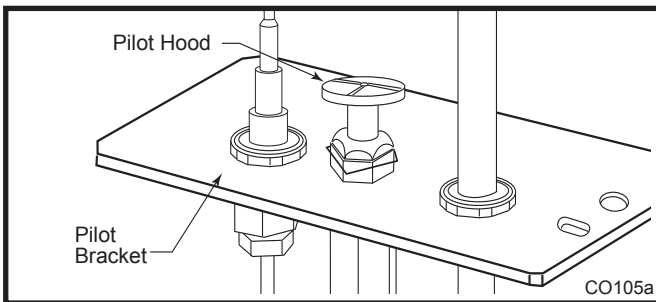

Fig. 56 Remove pilot hood.
- Remove pilot hood by lifting up. (Fig. 56) Do not remove the snap ring to remove the pilot hood.